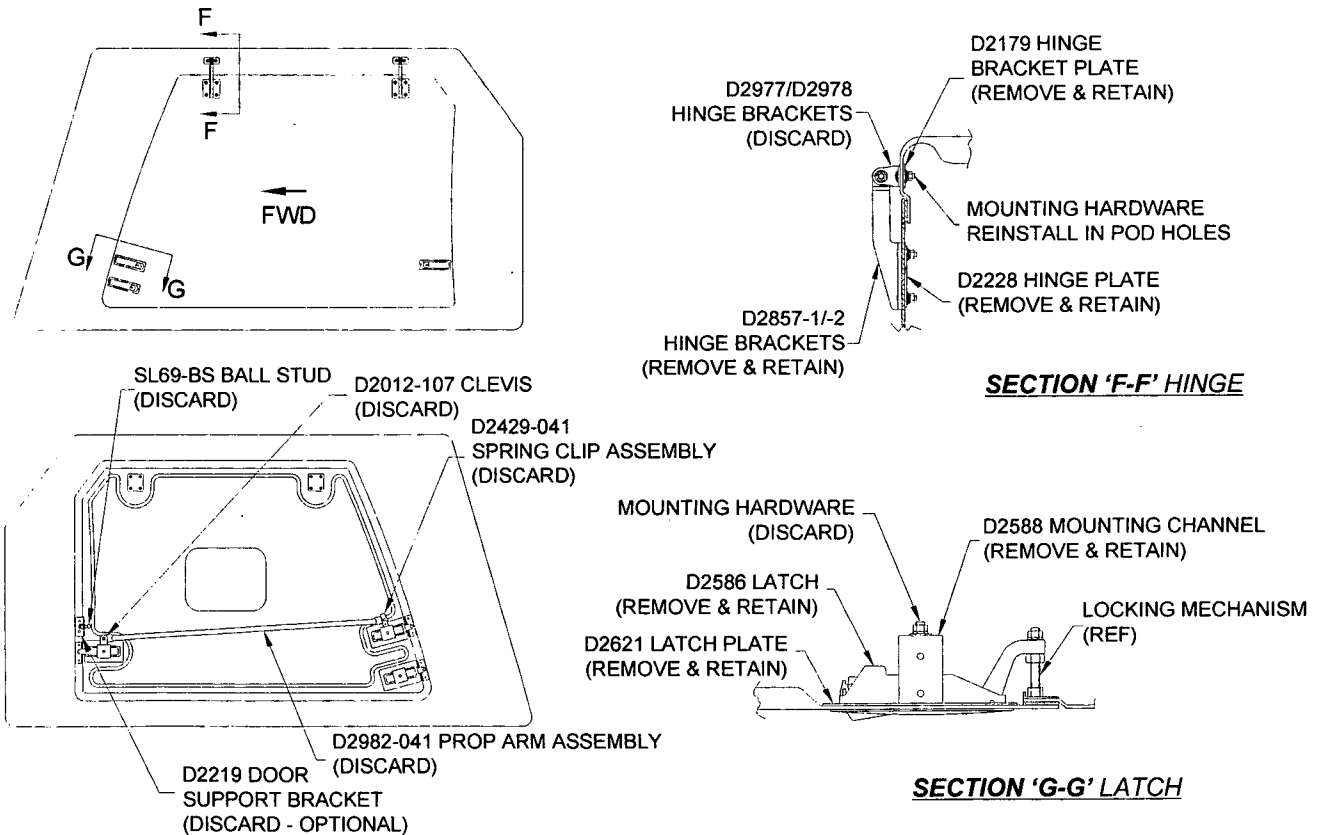
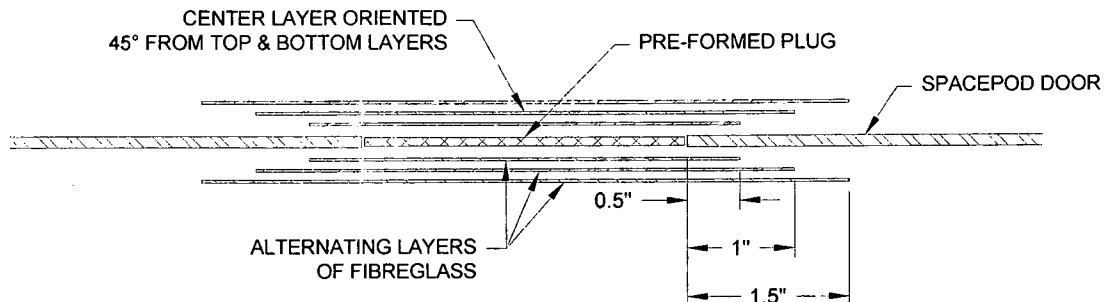

FIGURE 11. COMPONENT REMOVAL FROM EXISTING SPACEPOD KIT
FIGURE 12. LATCH HOLE REPAIR IN SPACEPOD DOOR
- 3.4.2 Remove the following components from the door and pod as shown in Figure 11:
- 3.4.3 Fill each of the two forward latch holes as shown in Figure 12. (Note that it is optional to fill in only the lower latch hole and to leave the latch in the upper latch hole. If this option is chosen, remove the locking mechanism from the latch. Refer to Figure 11).